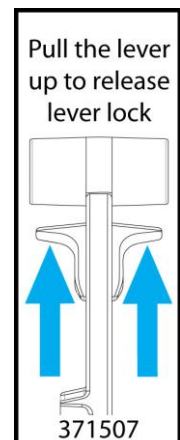

Fig. 2
**SPEED AND DIRECTION SHIFTER:** Lift the levers located on either side of the shifter control then move the shifter control forward or backward to select the desired direction and speed then release the levers. **DO NOT** push the shifter control without releasing the levers as this will cause damage to the shifter control. (See Fig. 2)